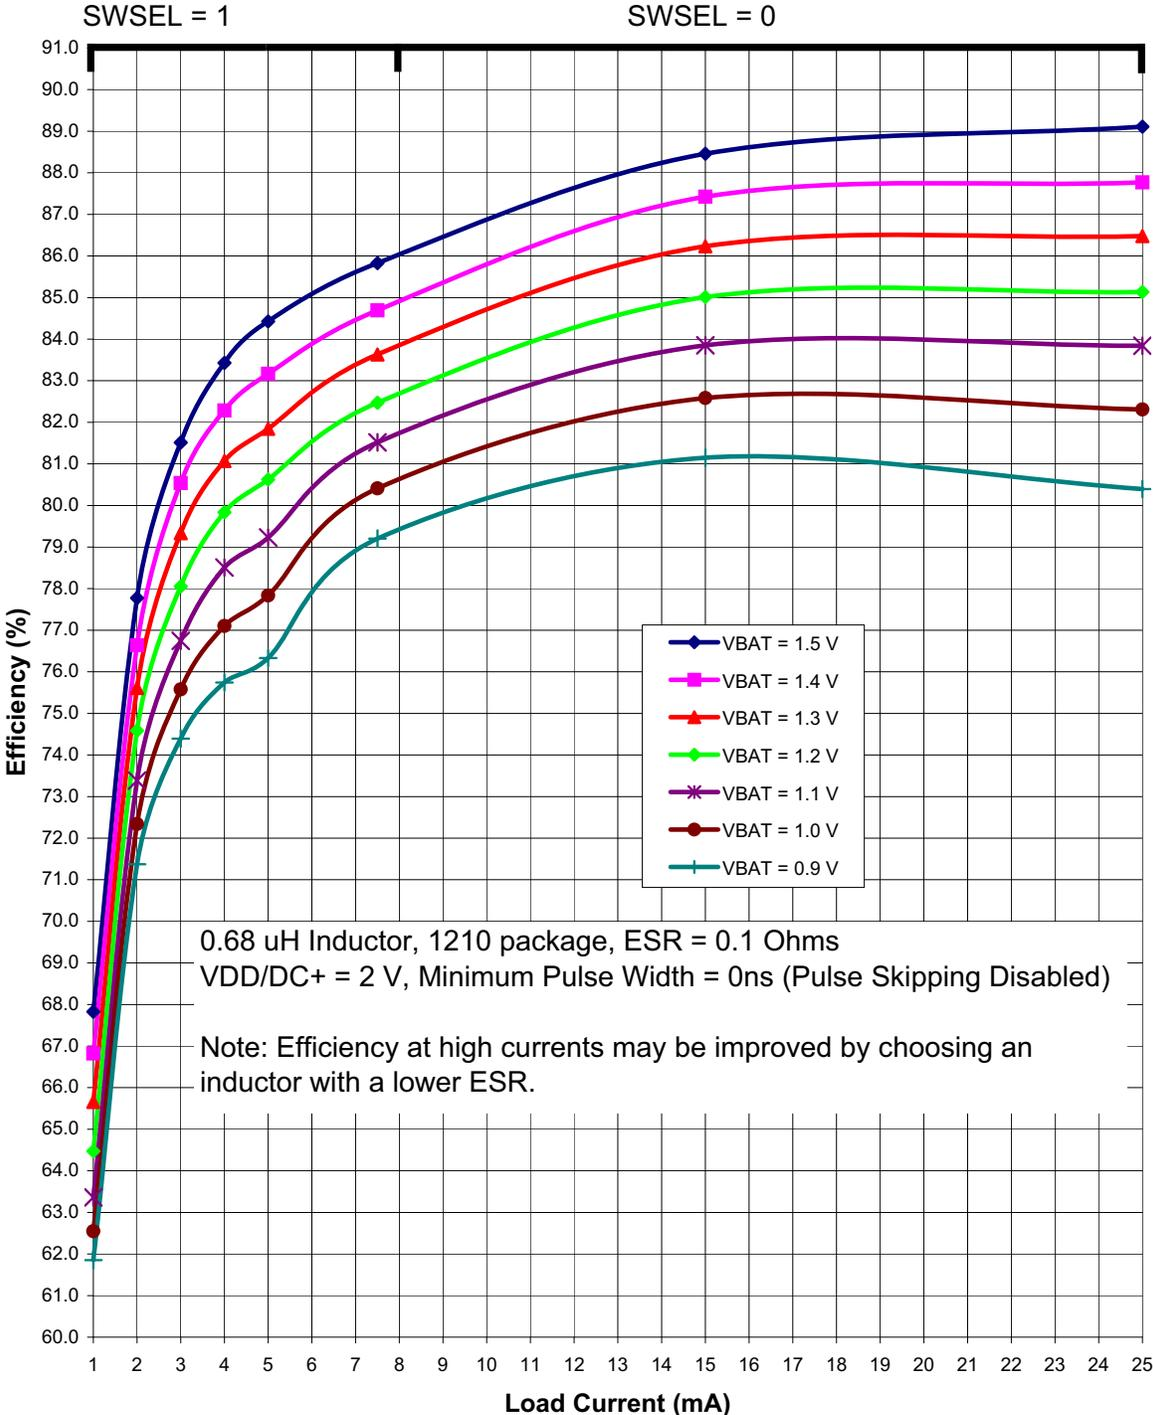
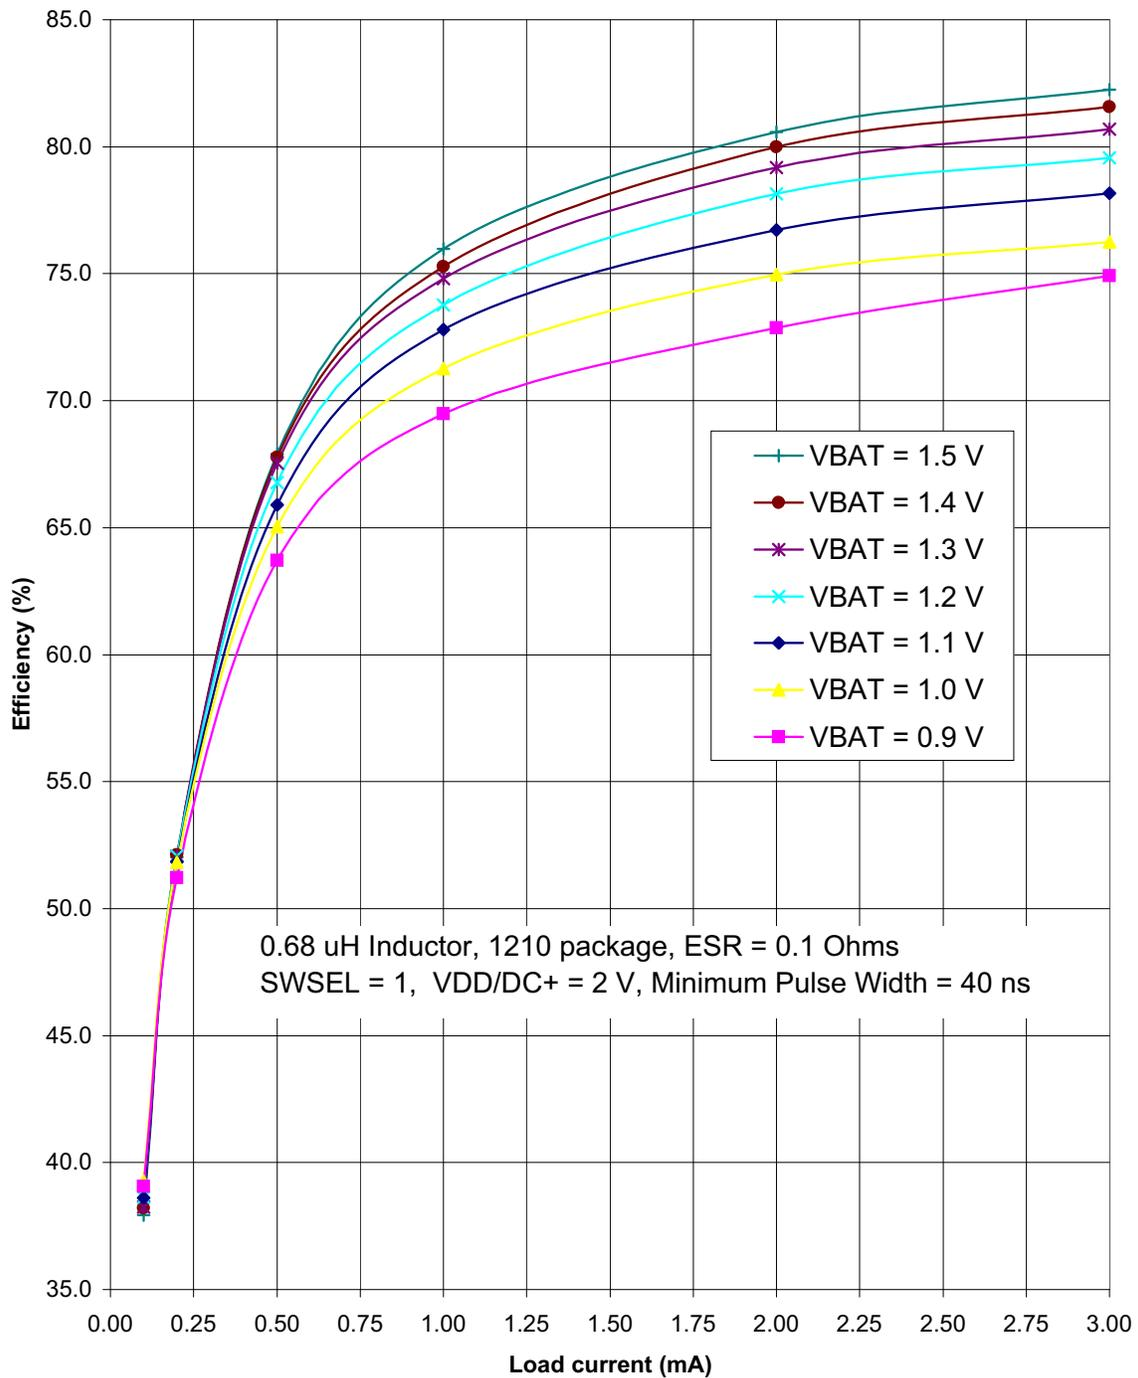

Figure 4.3. Typical DC-DC Converter Efficiency (High Current, VDD/DC+ = 2 V)
Figure 4.5. Typical DC-DC Converter Efficiency (Low Current, VDD/DC+ = 2 V)
The DC-DC Converter Efficiency can be estimated using Figure 4.3–Figure 4.5.
<ol style="list-style-type: none"> Based on device characterization data; Not production tested. SYSCCLK must be at least 32 kHz to enable debugging. Digital Supply Current depends upon the particular code being executed. The values in this table are obtained with the CPU executing an “sjmp \$” loop, which is the compiled form of a while(1) loop in C. One iteration requires 3 CPU clock cycles, and the Flash memory is read on each cycle. The supply current will vary slightly based on the physical location of the sjmp instruction and the number of Flash address lines that toggle as a result. In the worst case, current can increase by up to 30% if the sjmp loop straddles a 64-byte Flash address boundary (e.g., 0x007F to 0x0080). Real-world code with larger loops and longer linear sequences will have few transitions across the 64-byte address boundaries. Includes oscillator and regulator supply current. IDD can be estimated for frequencies ≤14 MHz by simply multiplying the frequency of interest by the frequency sensitivity number for that range, then adding an offset of 90 μA. When using these numbers to estimate I_{DD} for >14 MHz, the estimate should be the current at 25 MHz minus the difference in current indicated by the frequency sensitivity number. For example: V_{DD} = 3.0 V; F = 20 MHz, I_{DD} = 4 mA – (25 MHz – 20 MHz) x 0.102 mA/MHz = 3.5 mA assuming the same oscillator setting. The supply current specifications in Table 4.2 are for two cell mode. The VBAT current in one-cell mode can be estimated using the following equation: $\text{VBAT Current (one-cell mode)} = \frac{\text{Supply Voltage} \times \text{Supply Current (two-cell mode)}}{\text{DC-DC Converter Efficiency} \times \text{VBAT Voltage}}$ <p>The VBAT Voltage is the voltage at the VBAT pin, typically 0.9 to 1.8 V. The Supply Current (two-cell mode) is the data sheet specification for supply current. The Supply Voltage is the voltage at the VDD/DC+ pin, typically 1.8 to 3.3 V (default = 1.9 V). The DC-DC Converter Efficiency can be estimated using Figure 4.3–Figure 4.5.</p> Idle IDD can be estimated by taking the current at 25 MHz minus the difference in current indicated by the frequency sensitivity number. For example: V_{DD} = 3.0 V; F = 5 MHz, Idle I_{DD} = 2.1 mA – (25 MHz – 5 MHz) x 0.079 mA/MHz = 0.52 mA. Internal LFO only available on 'F912 and 'F902 devices. Ability to disable VBAT supply monitor only available on 'F912 and 'F902 devices.